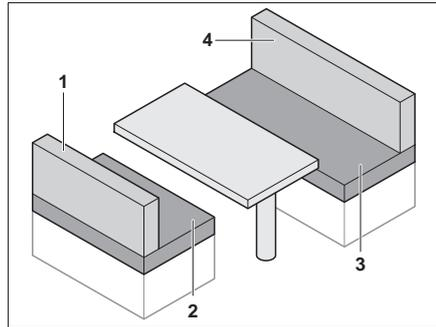

Fig. 79 Prior to conversion
- Remove the back cushions (Fig. 79,1 and 4).